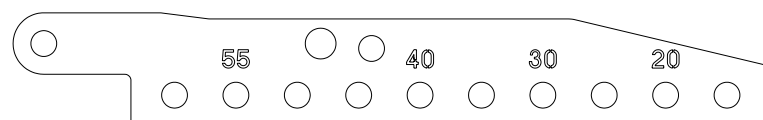

Fig. 14.3
3. Move the panels one after the other until the new column cross section has been set. The tape measure stamped-into the perforated profile (Fig. 14.3) shows the column cross section and makes measuring superfluous.